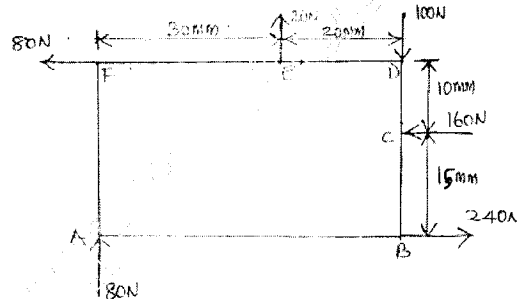

Fig. Q6 (b)
- b. Find the resultant for given force system and comment on your result. Refer Fig. Q6 (b). (12 Marks)